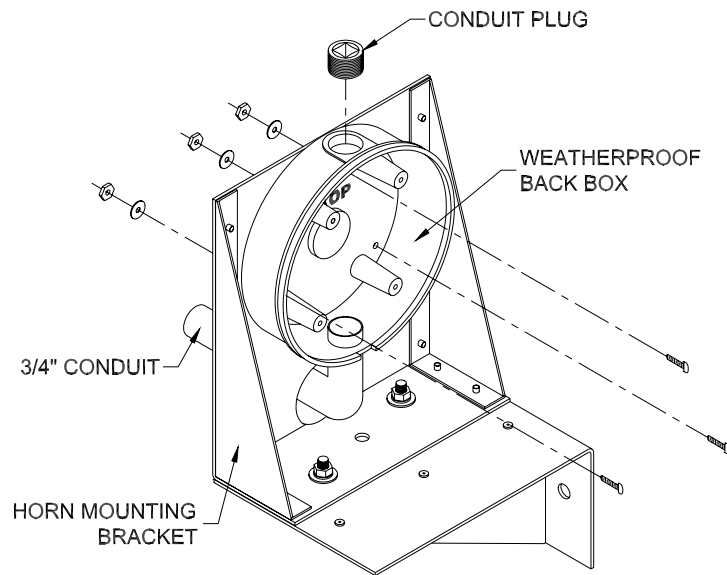

Figure 9 Back Box Mounting Points
10. Attach the weatherproof back box to the mounting bracket using the provided 8-32 x $1\frac{1}{2}$ " Phillips head machine screws, #8 split-lock washers, and 8-32 hex nuts as shown in figure 9.